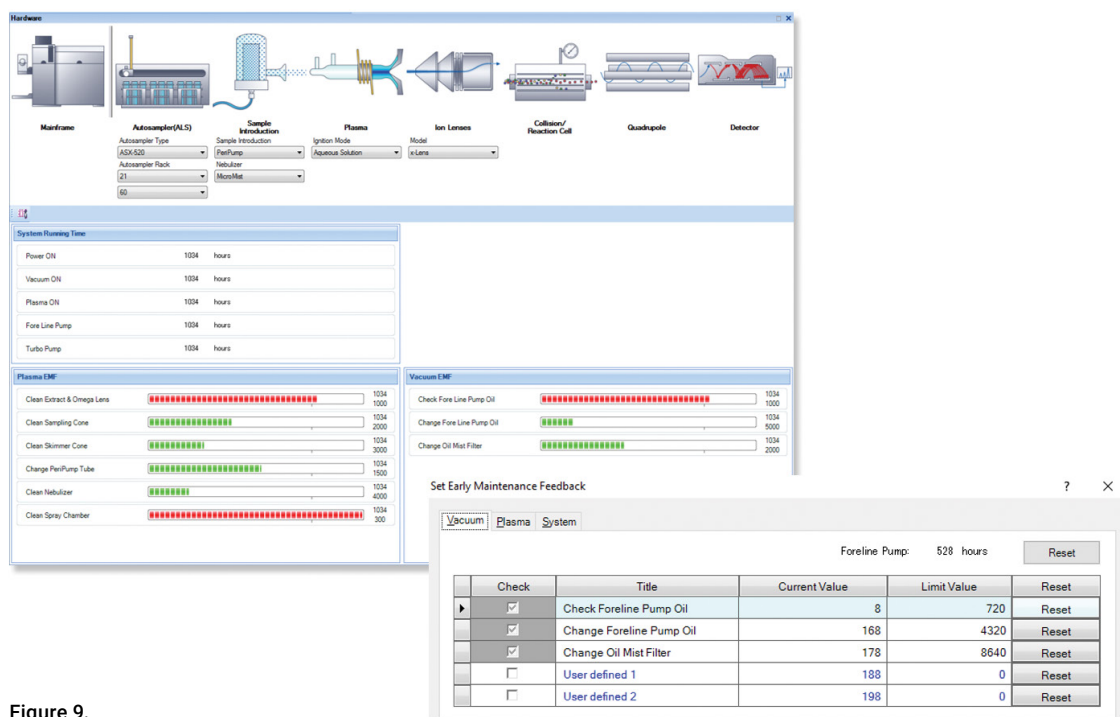

Figure 9.
**Early maintenance feedback:** Agilent has software prompts to help with maintenance – early maintenance feedback (EMF). The EMF window shows usage of various components and predicts when to perform maintenance. This is typically used for the foreline pump, for which we recommend an oil change every six months, but this is fully customizable, so you can set limits once you've got used to your system (Figure 9).